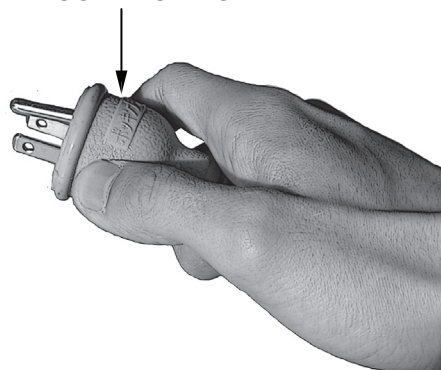

Figure 9. Inverter Power Plug
16. Place the inverter circuit protector switch in the **OFF** position and disconnect the **power plug** (Figure 9) from the power source.